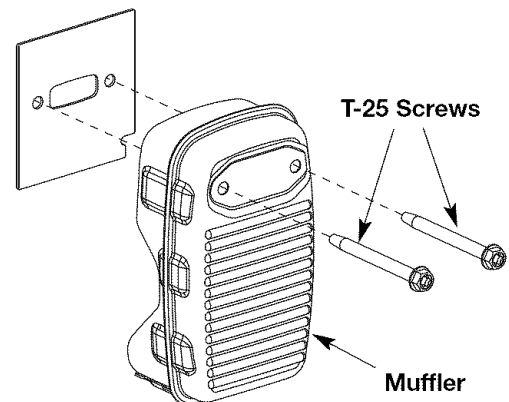

Fig. 27
2. With a flat blade screwdriver or Torx T-25 bit, remove the 2 screws attaching the muffler to the engine (Fig. 27).